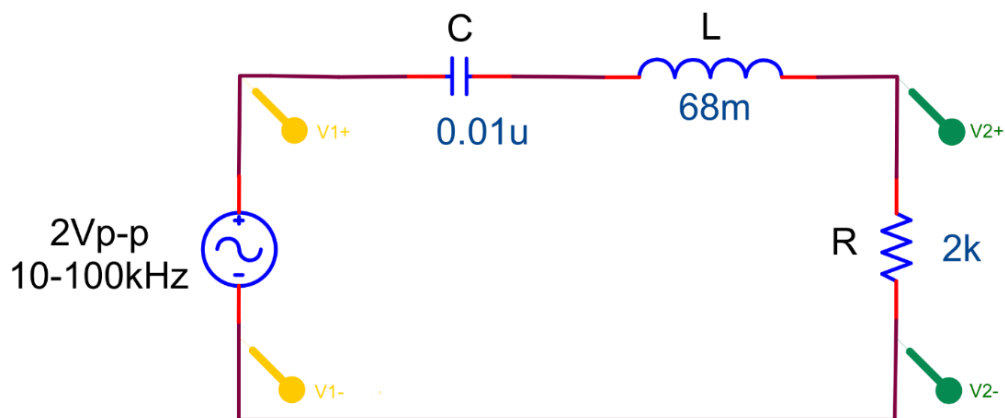

Figure 15.6
- Construct the circuit of Figure 15.6. Vary the frequency from 10Hz to 100kHz and use the oscilloscope to measure the magnitude of V2. Make sure that the input voltage remains constant throughout the measurements. Plot the magnitude of V2 vs. frequency on semi-log graph (frequency on log scale).
2. Use the AC analysis of SPICE to plot the magnitude of V2 versus frequency for Figure 15.6. How do your results compare to those obtained in part a?